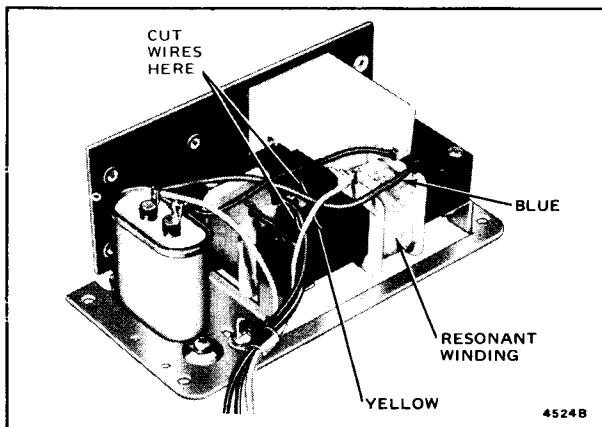

FIG. 15—CUT THE RESONANT WINDING LEADS AS SHOWN HERE.
- f. Cut the yellow and blue wires leading to the resonant winding of the transformer as indicated in Fig. 15. Strip about 1/4 inch [6 mm] of insulation from each of the 4 ends.